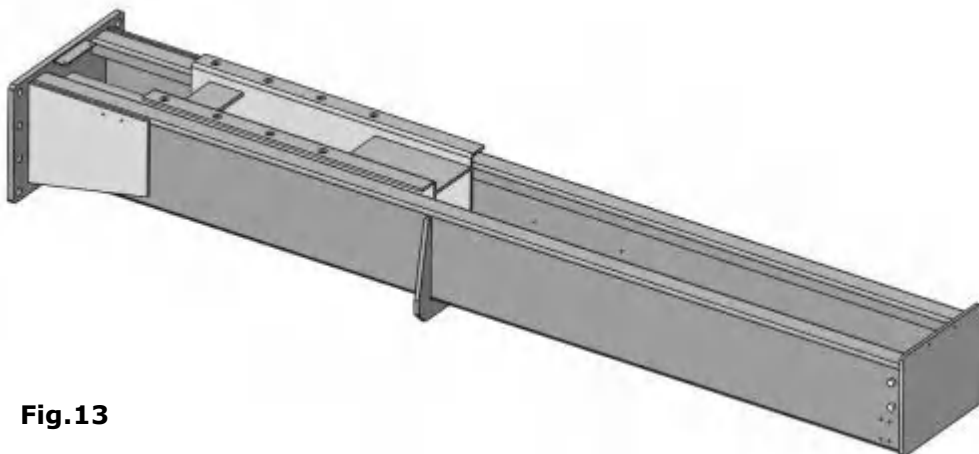

Fig.13
1.Lay the column flat to the ground. **(See Fig.13)**